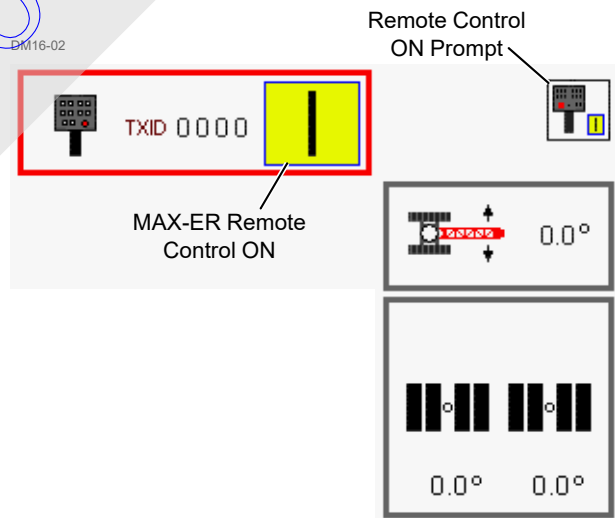

FIGURE 3-6
4. Scroll up or down to turn on remote control (Figure 3-6).